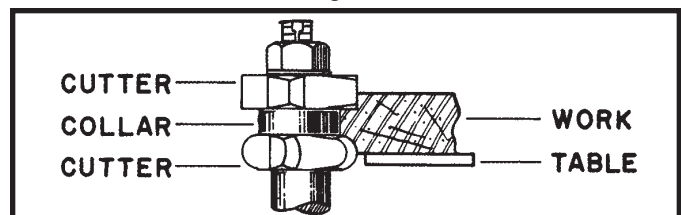

Fig. 66
4. The collar between cutters method, as shown in Fig. 66, has both the advantages of the first two methods and is frequently used where both edges of the work are to be shaped.